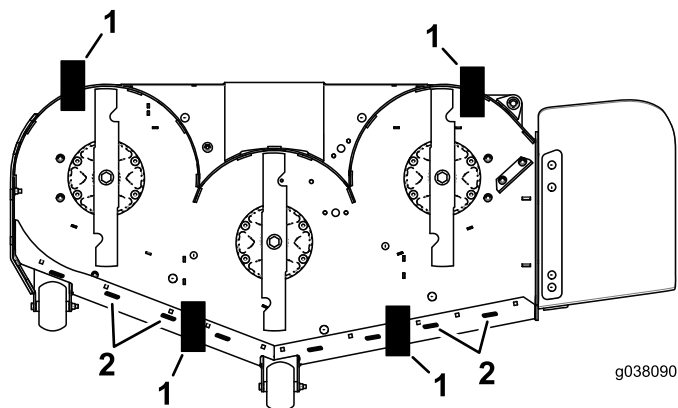

Figure 97
11. Place 2 blocks (see Block Height and Rake Table) under the rear edge of the cutting deck skirt; 1 on each side of the cutting deck (Figure 97).